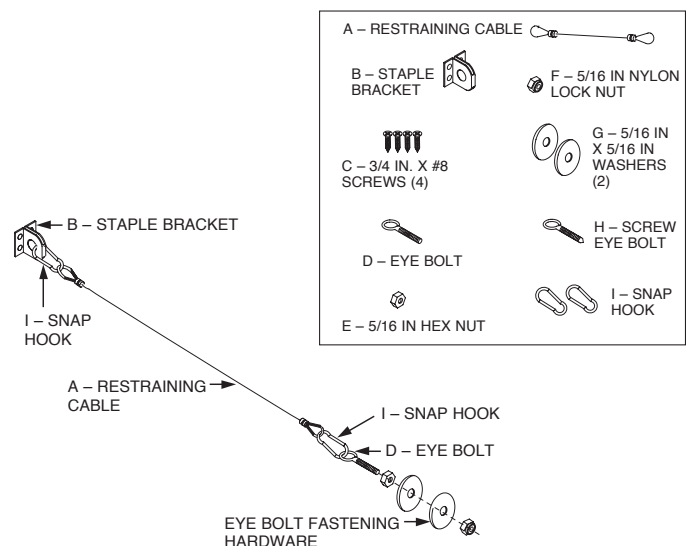

FIGURE 5-13
7. Attach one of the snap hooks included in the restraining cable package on the end of the restraining cable to the wall bracket and the other snap hook to the eye-bolt (See Figure 5-13). After snap-hooking the assembly, seal the restraining cable loops to the wall bracket and appliance connection hardware with lead wire seal (Part No. 197).